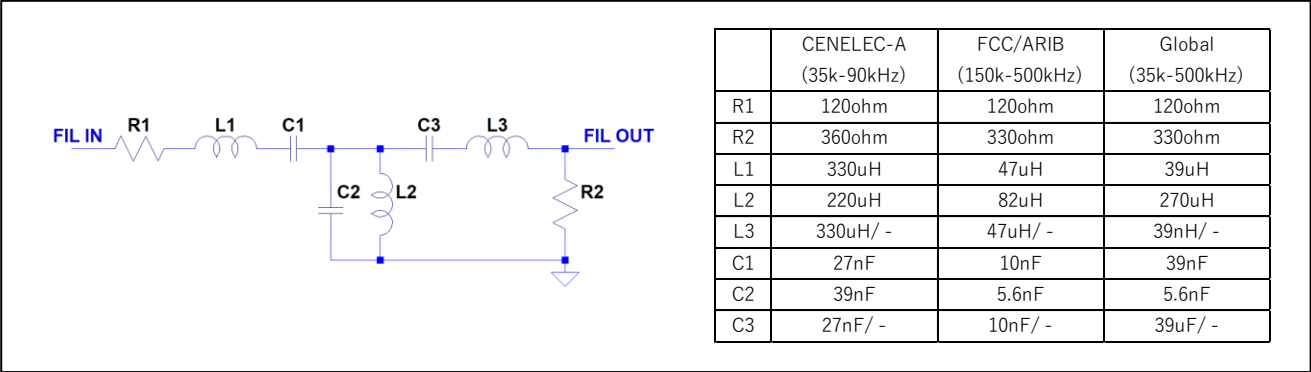

Figure 3-7 Configuration of RX-BPF and the circuit constant
- RX-BPF is used to suppress a noise of out of the signal frequency band. Select the RX-BPF circuit constants for the frequency band used as shown in Figure 3-7. If you are considering a frequency band other than CENELEC-A and FCC/ARIB, please select Global (35k-500kHz) RX-BPF. (Please contact us if you would like the RX-BPF constants for frequency bands other than CENELEC-A and FCC/ARIB.)